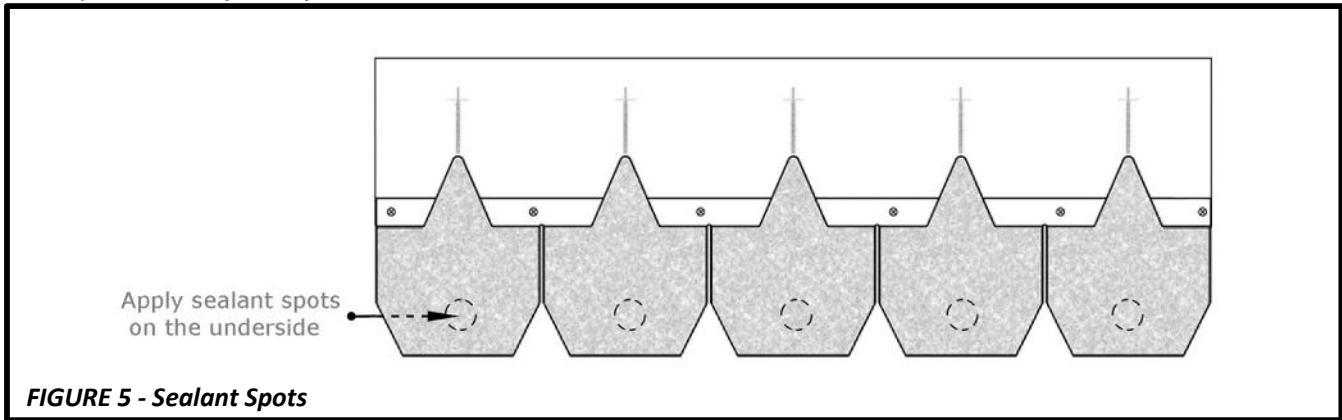

FIGURE 5 - Sealant Spots
- Hand seal shingles by applying **five 1" (25mm) diameter sized spots** of FWAVE approved sealant and adhesive (see **Table 1**). One spot behind every tab, (total of 5 spots), for the entire slope, near the bottom, as shown in **Figure 5**. Press the shingle down into position. FWAVE approved sealant and adhesive should approach the edge of the shingle, but not be exposed.